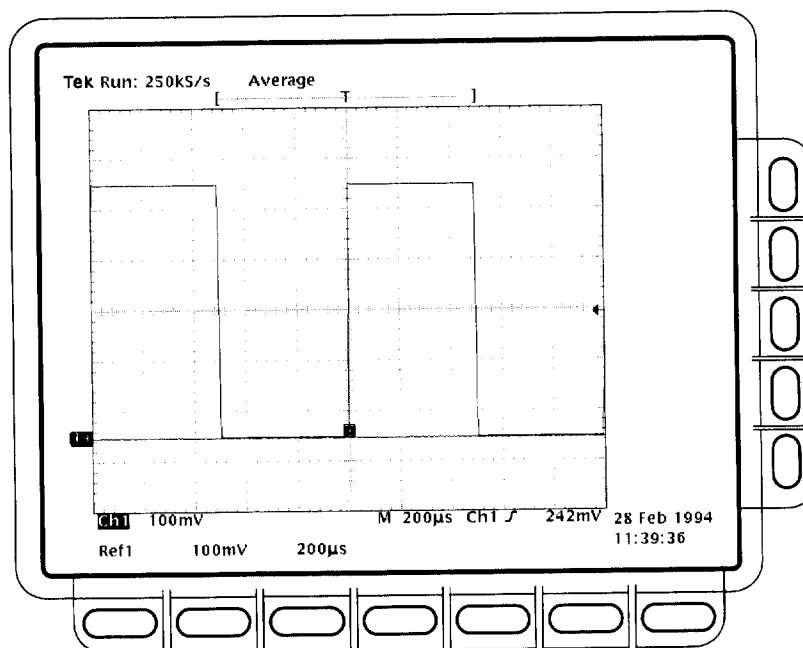

Figure 1–26: Measurement of probe compensator amplitude
- f. Press **CLEAR MENU** to remove the menus from the display. See Figure 1–26.